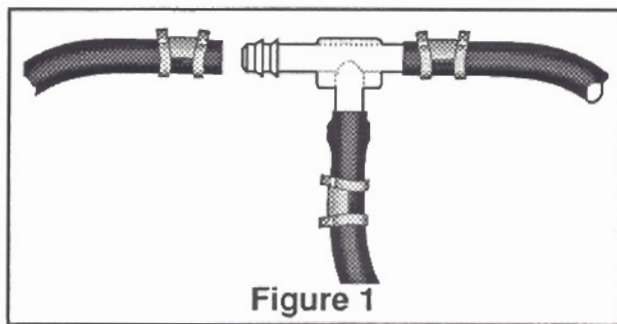

Figure 1
- D. Push the tubing over one side of the "tee" until all the barbs are covered. Repeat procedure for other leg of tee (Figure 1).
- E. With pliers slide the hose clamp forward until it fully covers the barbed section. Repeat for the other leg of tee (Figure 1).